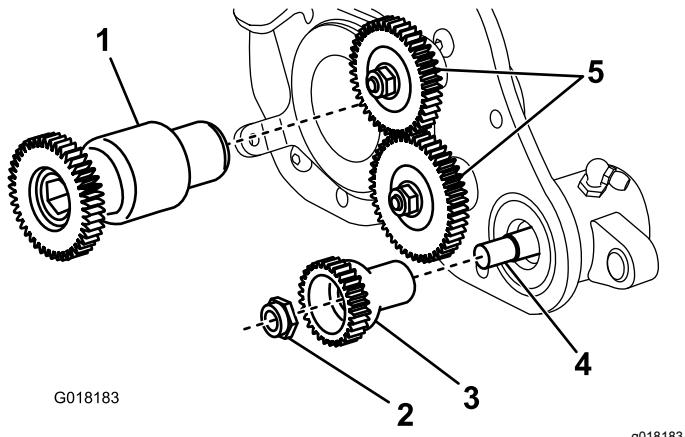

Figure 30
5. Remove the flange locknut securing the driven gear to the end of the groomer shaft (Figure 30). Remove the gear.
6. Remove the groomer drive gear from the reel shaft (Figure 30).